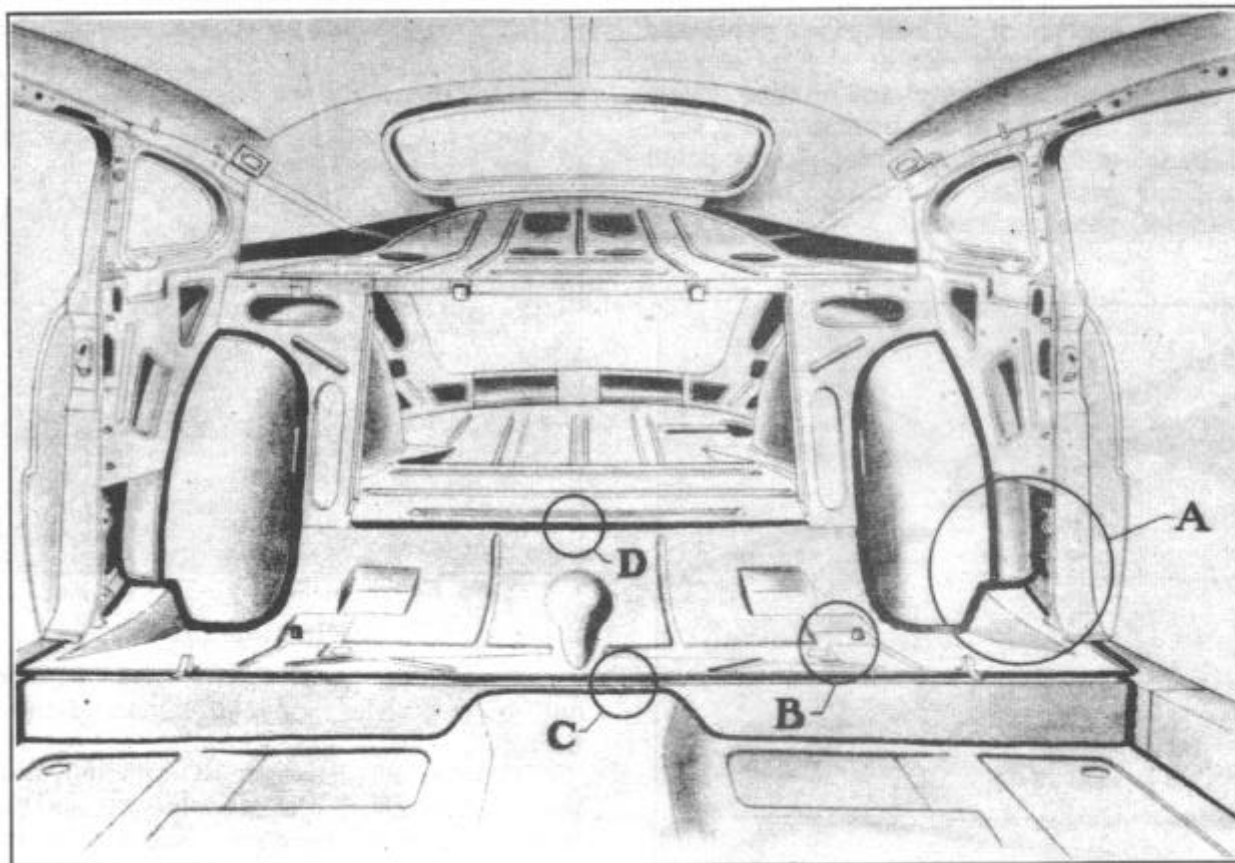

FIGURE 128
The heavy lines in Figure 128 indicate sealed joints at the rear seat under panel, frame cross member panels and wheelhouse panels. All of these points should be checked and sealed with body sealer.
Circle (A) in Figure 129 is shown in detail in Figure 128. In addition to sealing the seams at the fender and wheelhouse and at the frame; place a rubberized fibre pad into the front lower corner of the rear fender and frame, one each side to insure against dust leaks and to allow any water to drain out.
Circle (D) is the joint of the front end of the rear compartment panel extension and rear seat tray. This area should be sealed with body sealer as shown in Figure 128.